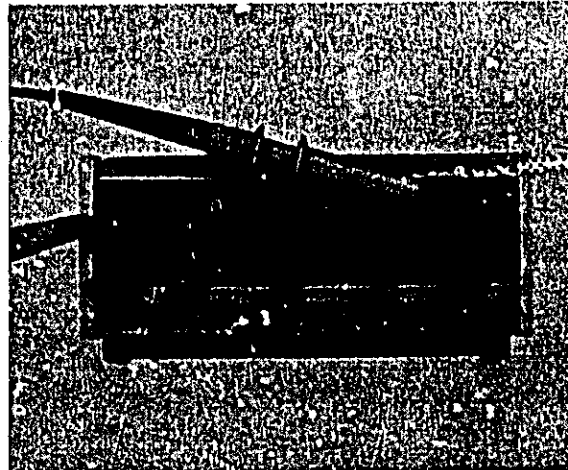

Figure 5-5. Contact Resistance Check (I)
- c. Connect the Model 4328A to upper terminals at INPUT and OUTPUT as shown in Figure 5-5 using 16005A Clip-Type probes.